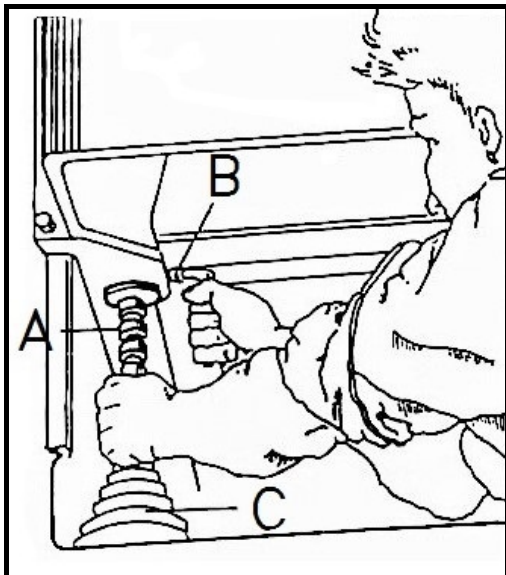

Fig. 4
2. Remove the boot (C) for access to screw,
3. Loosen lock bar (A) and turn acme screw (B) in clockwise direction, then adjust it to accurate position as shown in Fig. 4.